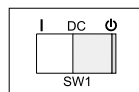

Figure 6. Standby condition label
6. Verify that the standby condition label is installed on the 2104 Model DS4. See Figure 6.